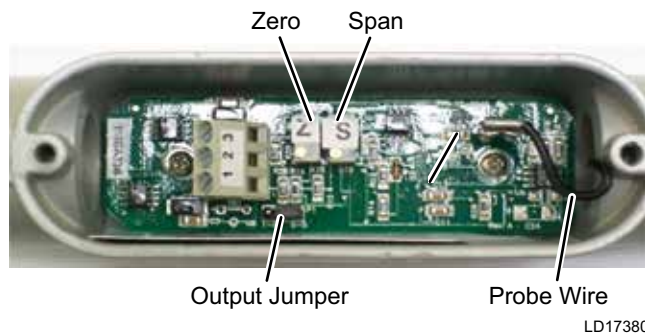

FIGURE 19 - HANSEN SENSOR
2. Open the electrical enclosure (see *Figure 19 on page 23*). Remove the wiring connector from the sensor, if present, or disconnect the 3 sensor cable wires from the sensor terminal strip.